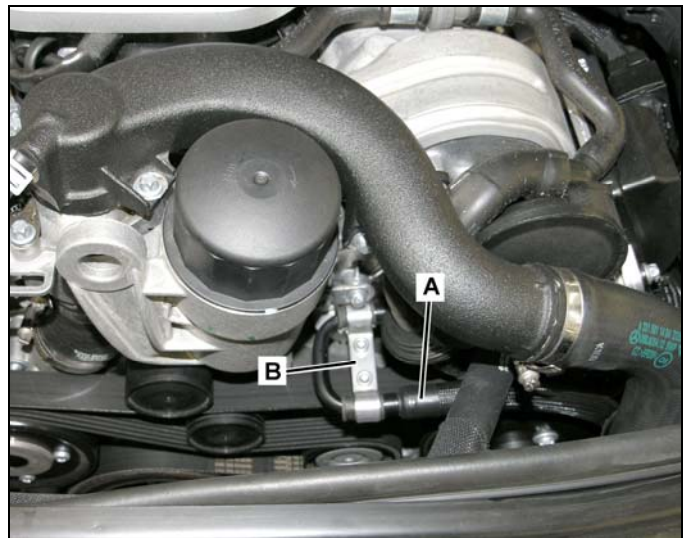

Figure 4
8. Detach ABC high-pressure line (A, Figure 4) from upper bracket (B).